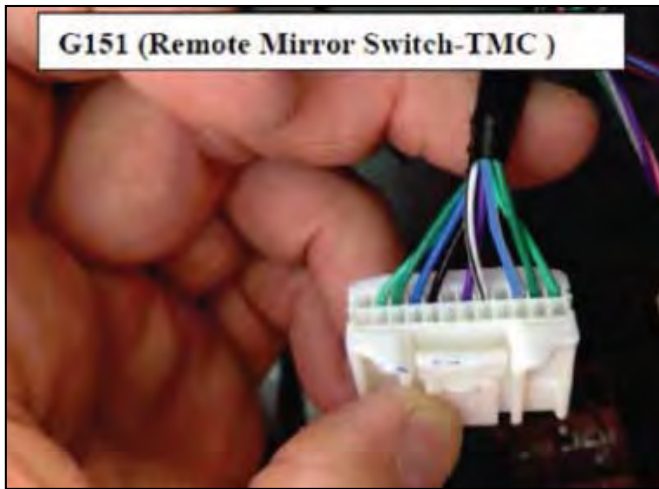
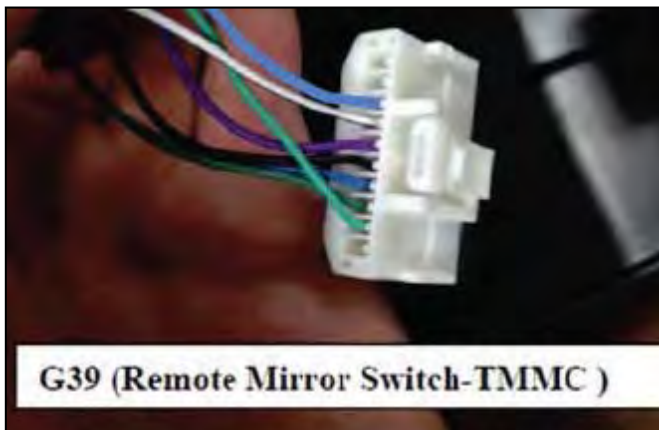

Figure 14a
Figure 14b
14. Locate the outer mirror switch connector G151 (TMC) Made/ G39 (TMMC Made) on the rear side of the fuse box opening where the cover was detached. See figure 14a and figure 14b.